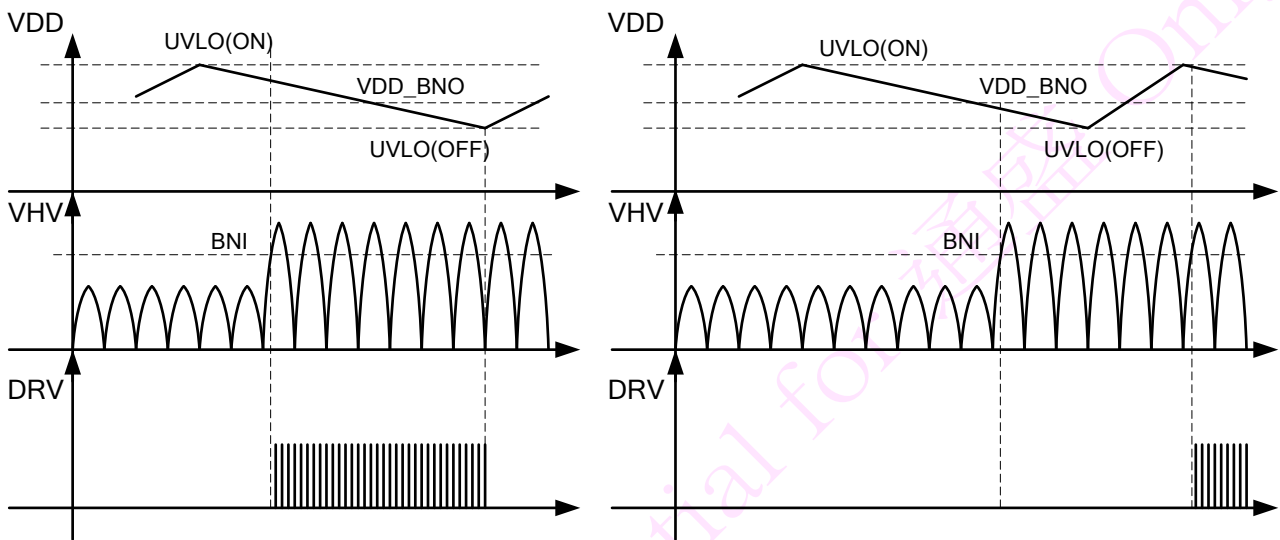

Fig. 5.2
The WT7162RH features brown in/out protection on HV pin. When HV pin voltage (VHV) goes above brown-in threshold (BNI) and $VDD > VDD_BNO$ (13.5V), the controller can start immediately. Otherwise, the controller actually starts the next time VDD reaches UVLO (ON), as shown in Fig. 5.2. When VHV goes below brown out threshold (BNO) for more than a de-bounce time, the controller will stop switching.